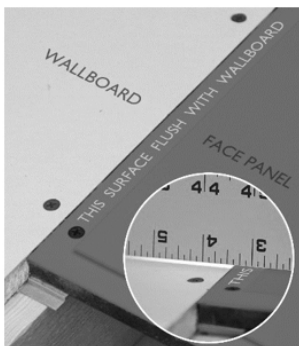

Figure 4
- Before seam finishing occurs, it is critical to test fit each speaker to check its registration with the surrounding wallboard. For correct registration, the perimeter screw flange of the speaker panel should be flush with the adjoining wallboard (See Figure 4). This creates a recess for seam tape to prevent sanding back into the tape during the finishing process.